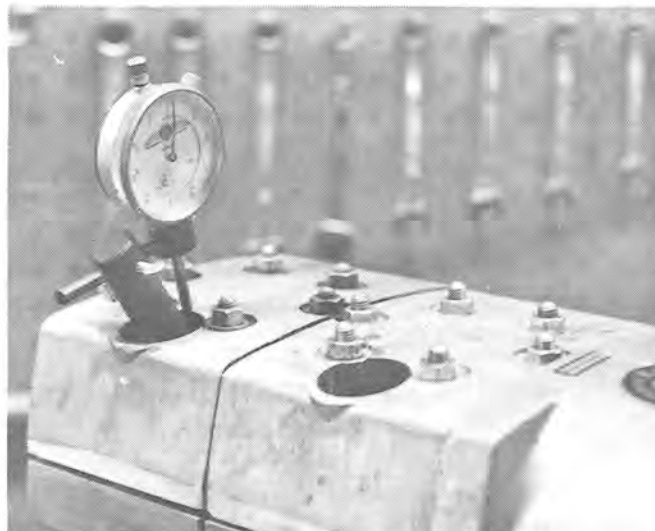

FIG. 1-64
- A. Install the dial indicator assembly into spark plug hole of No. 1 cylinder (P.T.O. side). See Fig. 1-64.